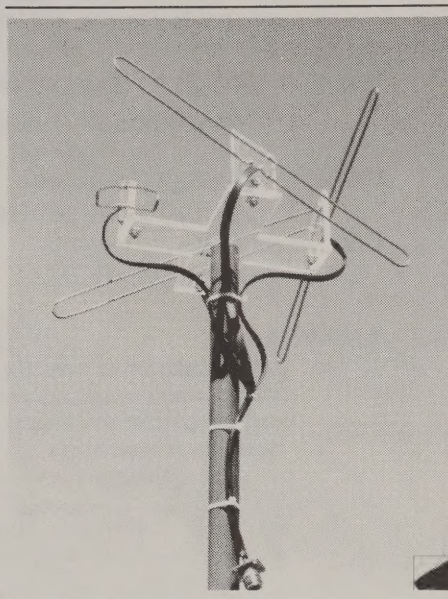
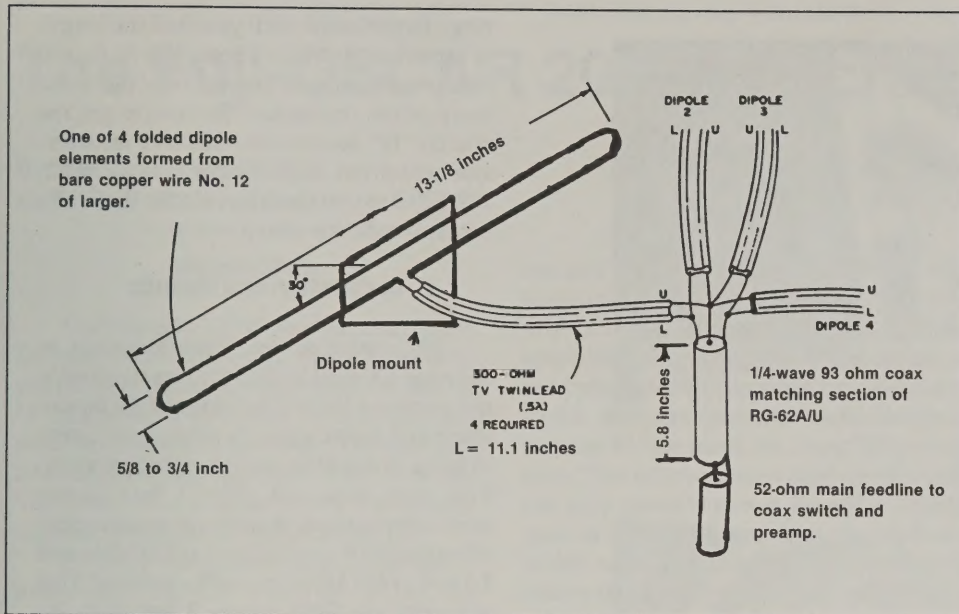

Figure 1
Figure 3 — From the *Satellite Experimenter's Handbook*, modified for 70 cm and antenna described in article. Not to scale.
As can be seen in Figures 1 and 2 (A) the Lindenblad antenna consists of four half wave folded dipoles slanted 30 degrees to the horizon, oriented 90 degrees to each other in azimuth, spaced 0.3 wavelength apart. They are tied together with four sections of half wave length 300 ohm twin lead that brings the impedance of the four 300 ohm folded dipoles down to a common 75 ohms point. A quarter wave section of 93 ohm RG62A/U transforms this 75 ohm point to 50 ohms as shown in Figure 3. Since the polarization of the antenna is fixed, I had to build a pair of them and use a remote coax
Be sure the dipole mounts slope the same way on each base, and opposite from the other base. The polarization will be RHCP (clockwise) or LHCP (counterclockwise) from the perspective of viewing the 30 degree slopes from the center of the base. Figures 1 and 2 (A) are LHCP.